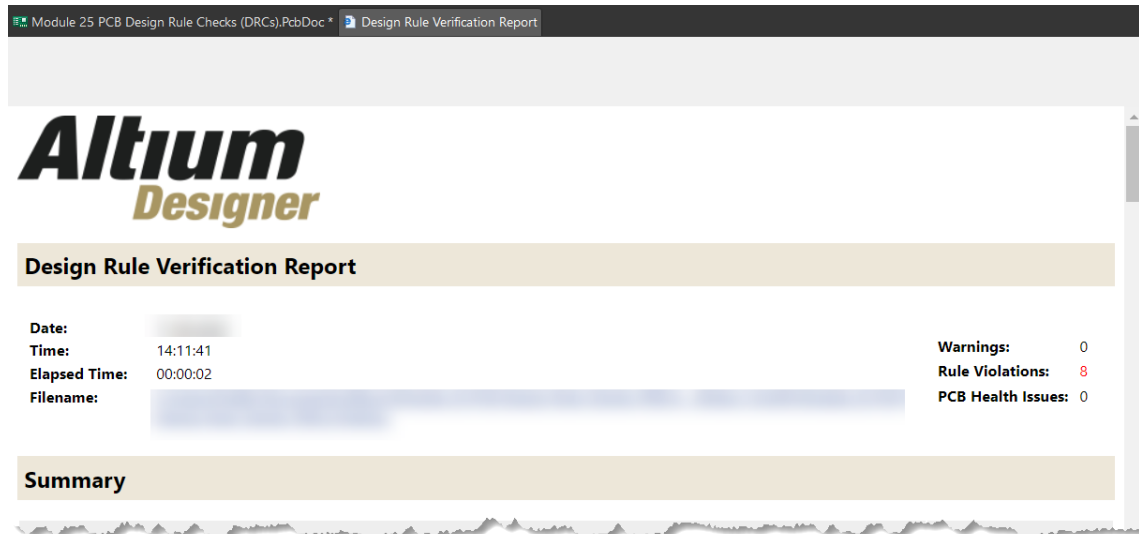

Figure 16. Design Rule report
36. The *Design Rule Verification Report* should now show eight (8) rule violations as shown in Figure 16.